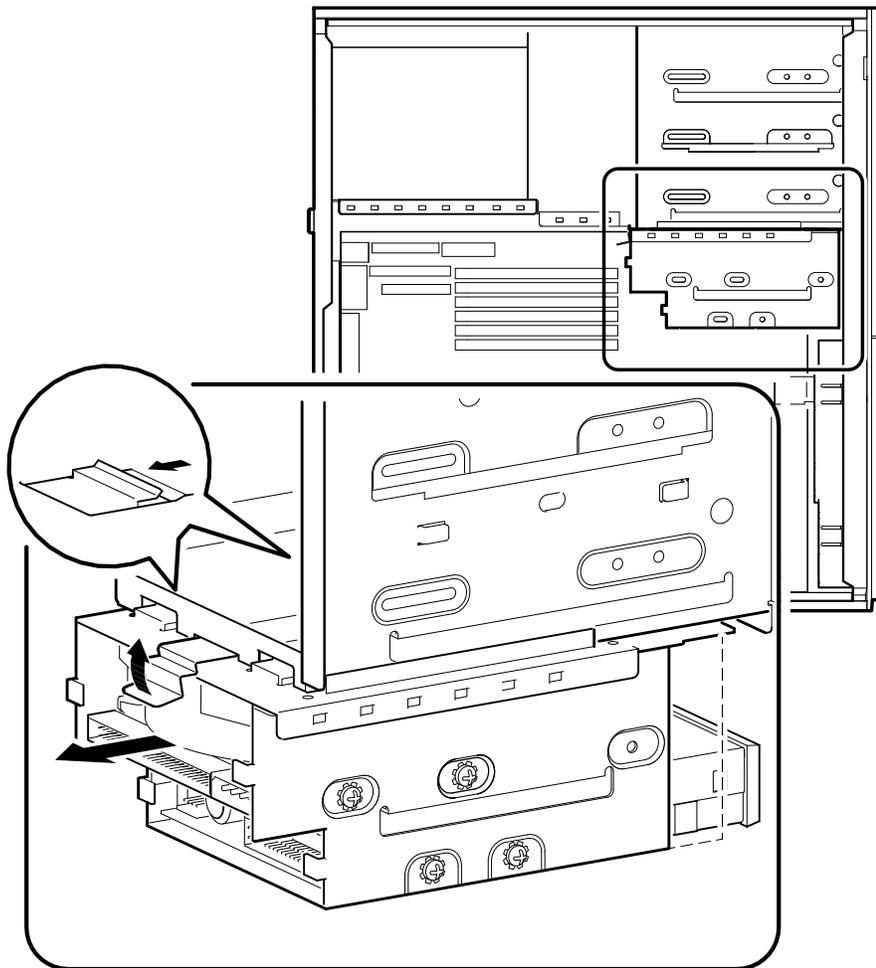

Figure 4-14. Removing the Lower Drive Bay Assembly
4. Lift the retaining clip at the rear top of the drive bay assembly and slide the assembly to the rear of the system unit (Figure 4-14).